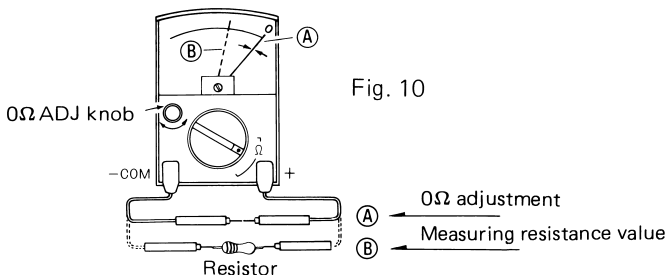

Fig. 10
$0\Omega$  adjustment, in other words, fullscale adjustment must be done prior to using the tester. Short + and -COM terminals together as shown in Fig. 10 (A), turn the zero ohm adjuster ( $0\Omega$  ADJ) knob, and align the indicator pointer to the rightmost  $0\Omega$  line of the  $\Omega$  scale. After this adjustment is finished, proceed to measurement. If this adjustment is done whenever the range is switched, more accurate indicated value can be obtained.